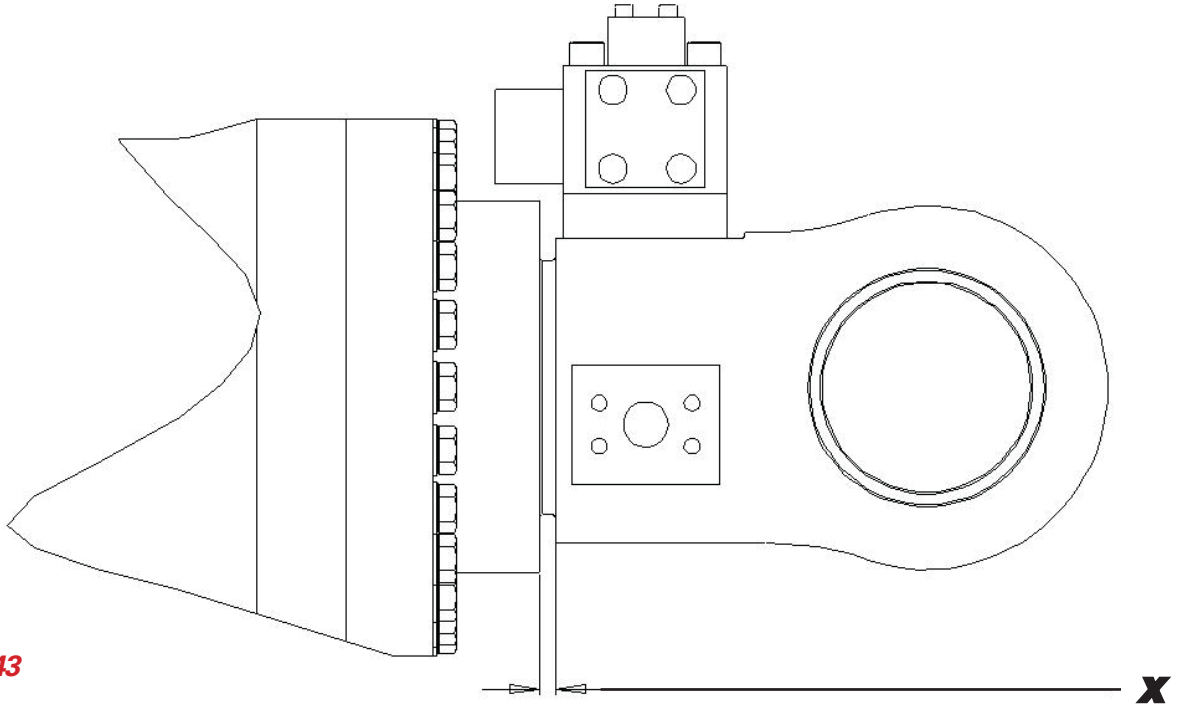

FIGURE 5-43
Periodically check (minimum once per week) the gap between the rod eye shoulder and head face (X) with the cylinder fully retracted (see **Figure 5-43**). If the gap exceeds the dimensions given in the table, below, by more than .06", it could be an early indication of required maintenance. Stop shear operations and call the LaBounty Service Department: (218)-834-6901.